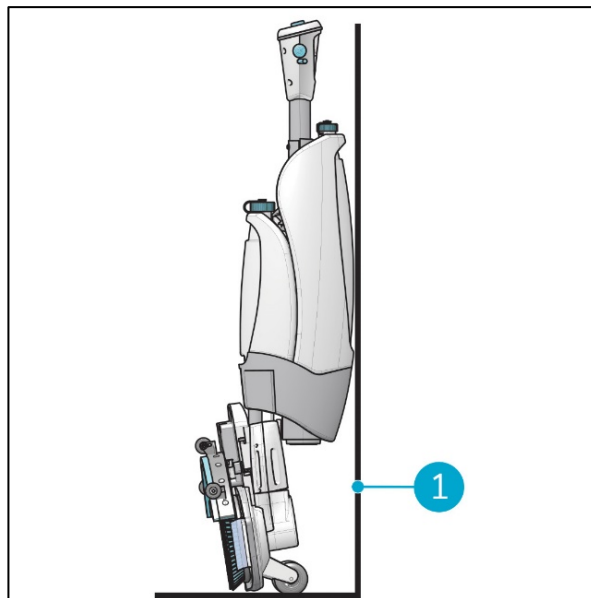

Figure 24
3. Store the i-mop XXL pro close to a wall (Figure 24, pos 1) with the handle pointing towards the wall and the brushes facing away from the wall.